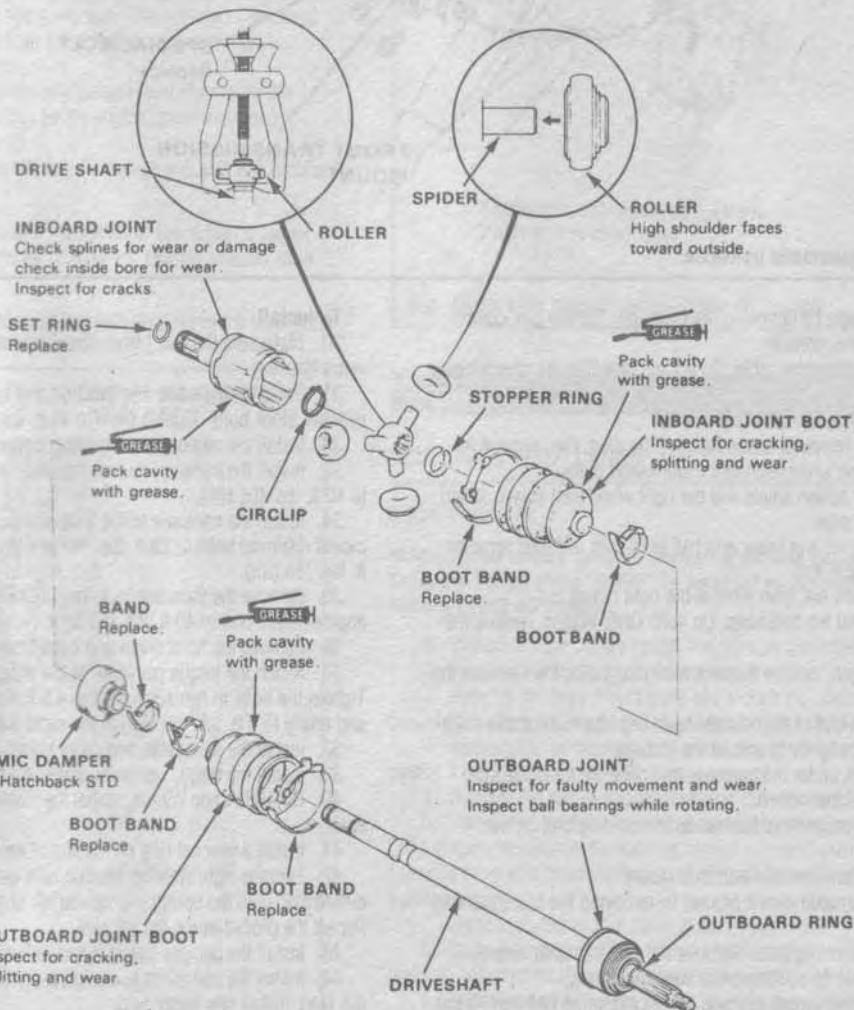

Fig. 50 Exploded view of the halfshaft assembly
▶ See Figures 50, 51, 52, 53 and 54